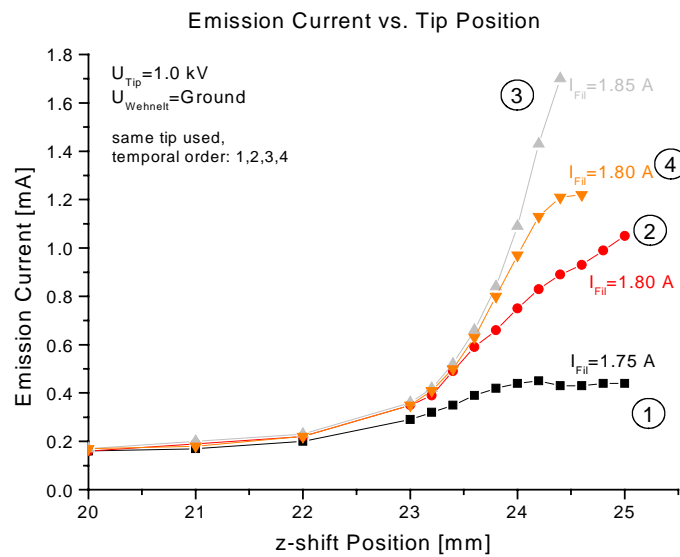

Figure 10. Emission current for the same tip before and after preparation (stages 1-4 in chronological order).
- The emission current also varies for a prepared or unprepared tip as shown in figure 10 below.